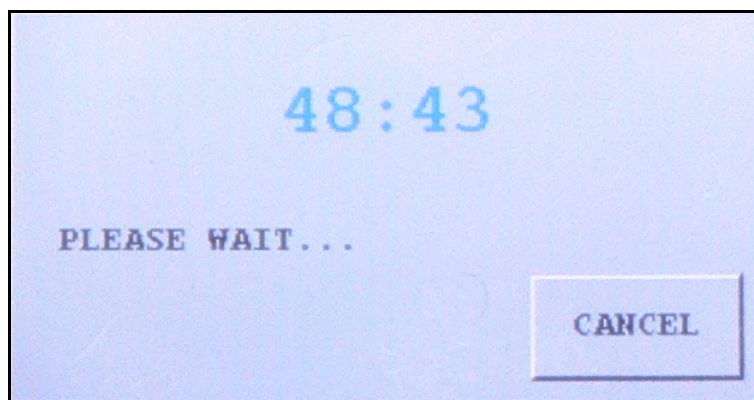

Figure 2-9 Helium Background Timer
- Background is changing, indicating the system is still pumping away background helium, a countdown timer appears (Figure 2-9). The VS system monitors the helium background and shows the time until the calibration begins. Should you prefer not to wait, a *Cancel* button permits the calibration request to be canceled.